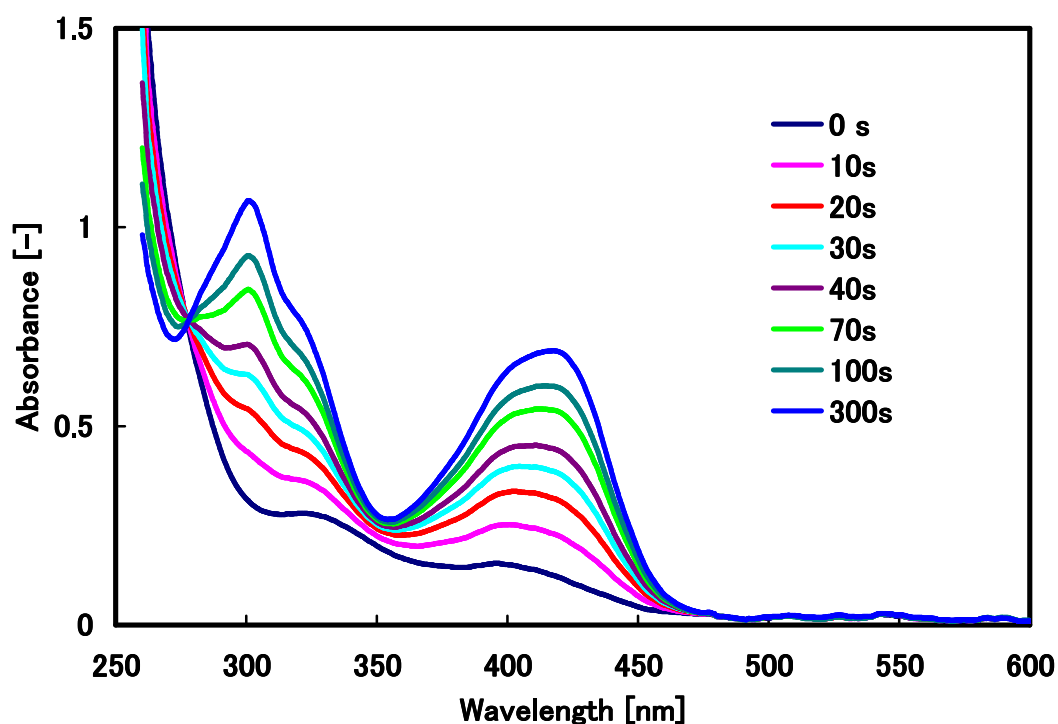

Figure 6. The absorbance of potassium hexacyanoferrate(II) and products. Electrolysis conditions: 500mV, 300 second.
2. Conditions: 20mM **potassium hexacyanoferrate(II)** in 1M KNO₃, working electrode: ITO, reference electrode: RE-3V, counter electrode: Pt wire, electrolyzed at 500mV for 300 second, 1M KNO₃ solution as the reference of absorbance. Figure 6 shows the change of absorbance due to oxidation of **potassium hexacyanoferrate(II)** at 0, 10, 20, 30, 40, 70, 100, 300 sec respectively.